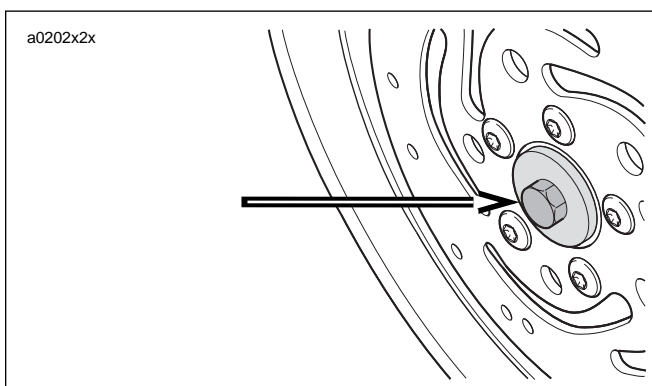

Figure 2-16. Installation Tool Support Plate
- b. See Figure 2-16. Place threaded rod through support plate. Insert assembly through wheel.